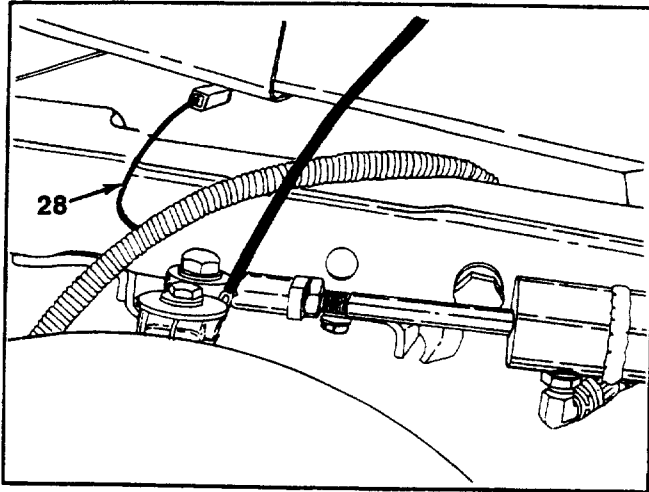

FIGURE 19.
22. Disconnect the wire lead to the electric clutch, located on the left hand side of unit. See figures 19 and 20.